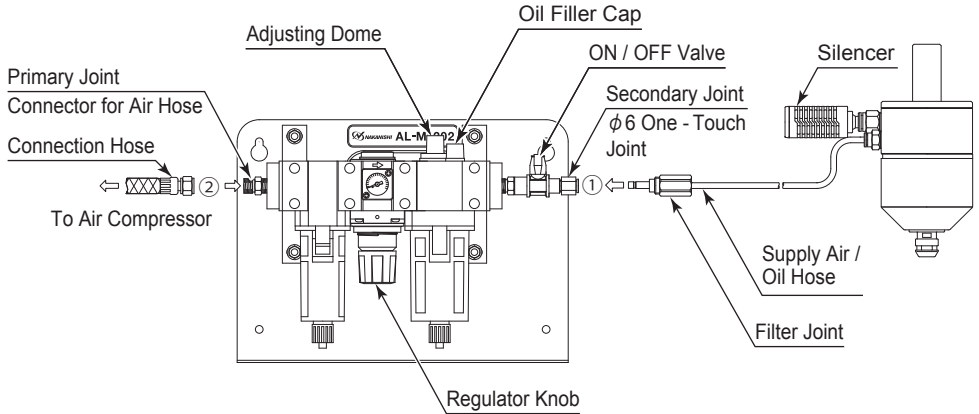

Fig. 7 Connection of Air Line Kit " AL - M1202 (Sold Separately) "
- ① Connect the air hose to the  $\phi 6$  One - Touch Joint on the Air Line Kit.
- ② Connect the silencer to the  $\phi 8$  One - Touch Joint of the Air Turbine Spindle.
- ③ Connect the Filter Joint of the supply air / oil hose to the Secondary Joint ( $\phi 6$  One - Touch Joint) of the Air Line Kit (Fig. 7 ①).
- ④ Fill Oil Reservoir through the Oil Filler Cap with recommended NAKANISHI Lubricating Oil (K - 211 : Air Line Kit's Standard Accessories) to Upper Limit. Disconnect from air supply prior to opening Oil Filler Cap. Do not over or under fill.
- ⑤ Connect the connection hose (Air Line Kit's Standard Accessories) to the Primary Joint of the Air Line Kit and Compressor (Fig. 7 ②).
- ⑥ Supply air from the air compressor and turn the Regulator Knob to set air pressure between 0.3 - 0.5 MPa (43.5 - 72.5psi).
- ⑦ Turn the ON / OFF Valve to ON and rotate the Air Turbine Spindle according to the recommended proper air pressure.